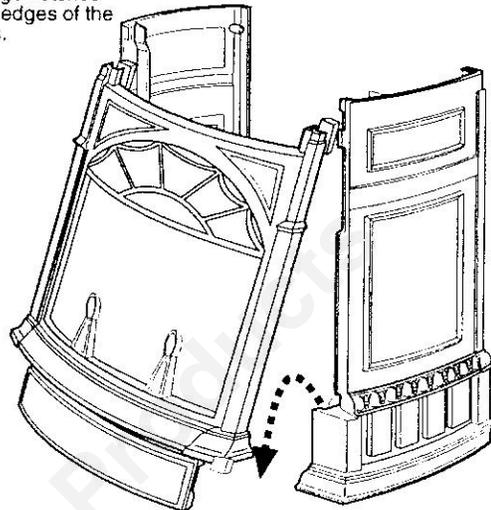
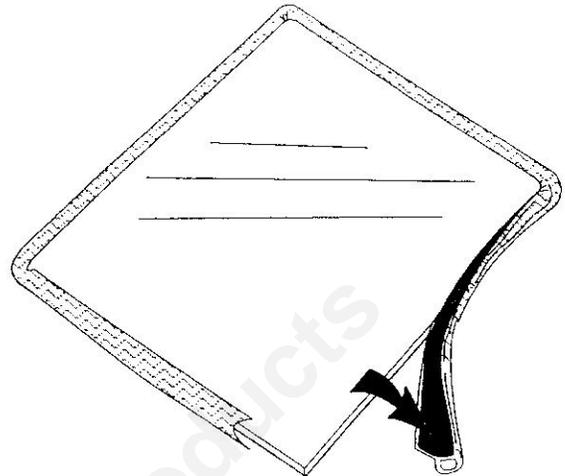

Figure 5-1. Remove the front plate.
Figure 5-3. Wrap the gasket material around the outside edge of the glass.
2. Lift the Front Plate up and then swing the bottom out to disengage it from the heater shell. Figure 5-1.
Replace glass only with Vermont Castings Part # 160-1691. See Figures 5-1 and 5-2, and previous instructions for removal of the damaged glass panel.
1. Remove the Front, Glass Frame and Glass Panel. Figures 5-1 and 5-2. Remove the old gasket. Figure 5-3. Use a razor blade to separate the glass and gasket from the frame, and to clean the glass of any remaining cement or bits of gasket. Use a cold chisel if necessary.
3. Starting on a long edge, remove about 6" of the protective paper strip and apply the flat adhesive face of the gasket around the outside-facing edge of the panel. Continue around the panel, applying about 6" at a time and being careful to not stretch the material. Do not overlap the gasket ends. Figure 5-3.
7. Replace the front, holding the bottom edges slightly away from the stove while engaging the steel tabs at the top with notches in the stove's side panels. See Figure 5-1. Swing the bottom of the front panel into place against the sides panels, and engage prongs on the bottom corners with notches in the tops of the stove legs. The front is in place properly when you cannot pull it toward yourself without also lifting it.